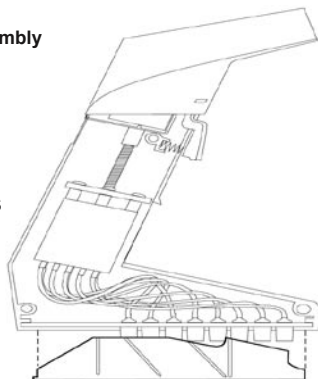

Figure F.2.3g: Attaching Ejector Comb
5. Slide the ejector comb over the tip fittings with the slots on the back of the comb exposed (see Figure F.2.3g).